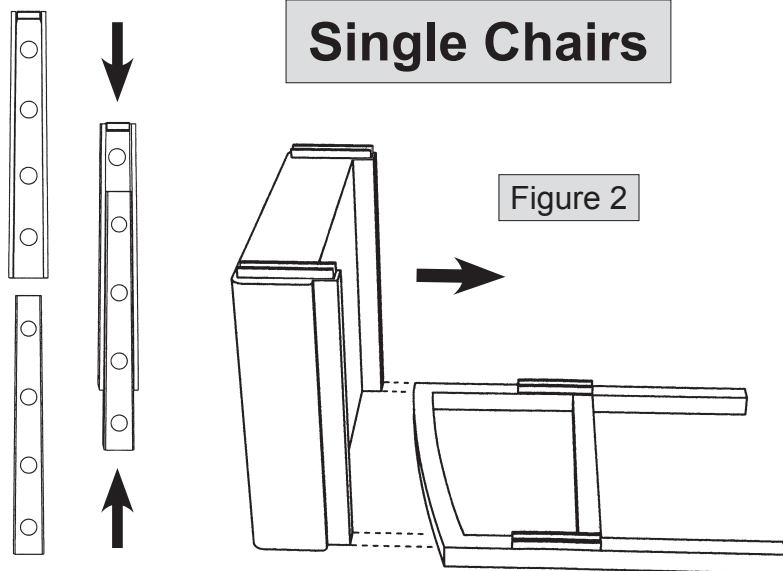

Figure 1
2. This chair is held together by use of **interlocking wedge** hardware, as shown in figure 1.